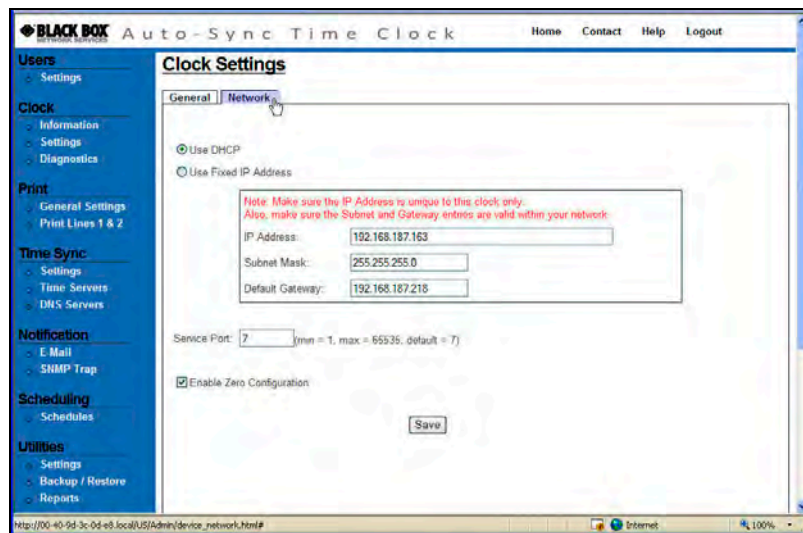

Figure 4-5. Network Clock Settings.
7. Click on the **Network** tab and the Clock Settings screen for network will appear (see Figure 4-5).